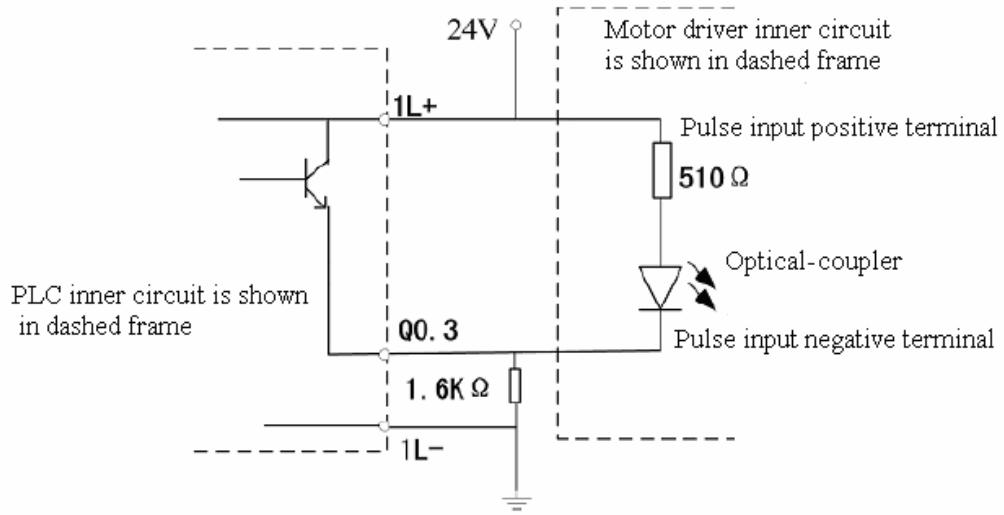
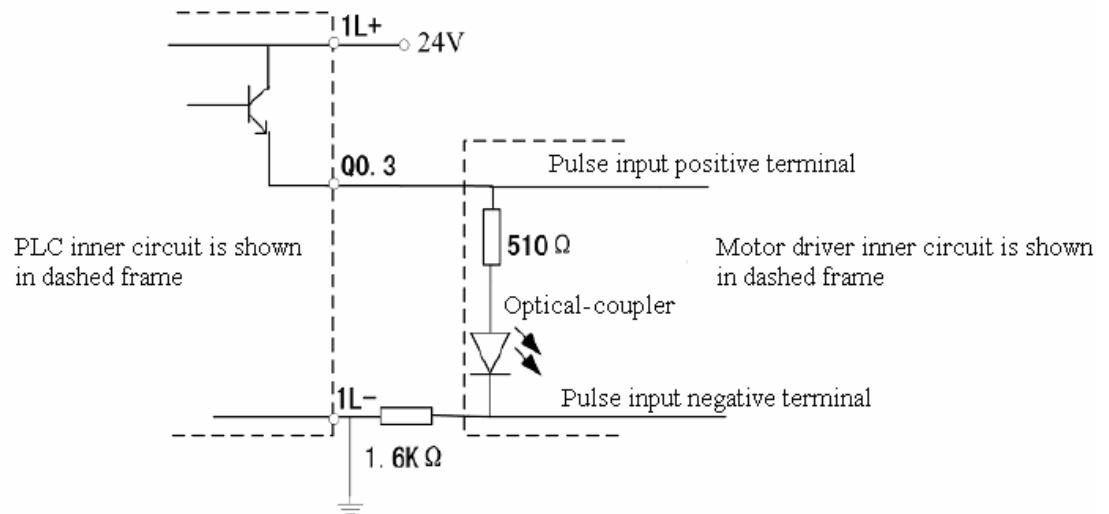

Figure 2.4.2 The Connection between LM3106 High-speed Output and Motor Example1 (same connection method to Q1.1)
Figure 2.4.3 The Connection between LM3106 High-speed Output and Motor Example2 (same connection method to Q1.1)
- ◊ Figure 2.4.2 and Figure 2.4.3 show two examples of the connection between LM3106 high-speed output and motor. 1.6KΩ resistance is used to driver rated current value between 10 and 20mA. The connection method shown in Figure 2.4.2 is recommend as it has better anti-jamming ability. The connection method shown in Figure 2.4.3 is the same with normal output wiring, and adopted without high precision requirement.